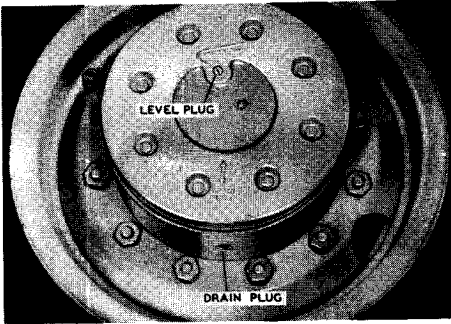

Figure 20
1. To drain each planetary gear housing, rotate the wheel so the filler plug is located at the bottom of the wheel. Remove the filler plug and allow the oil to drain. Figure 20.